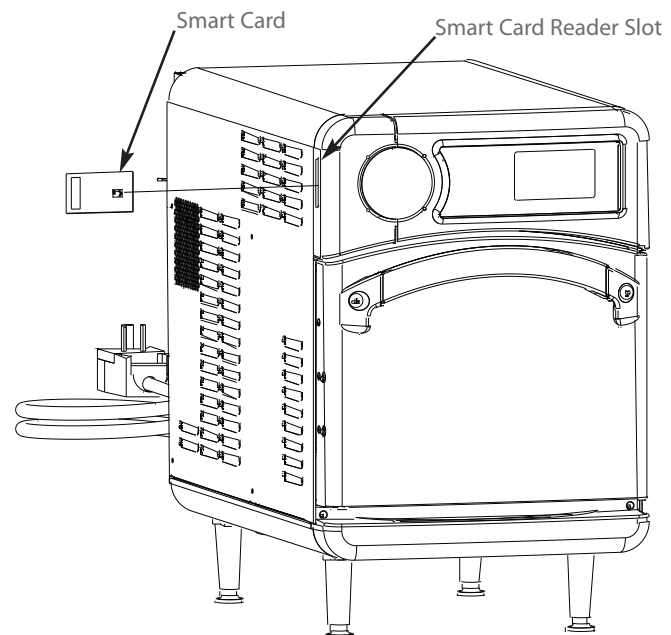

Figure 24: Inserting Smart Card
3. Insert the smart card (Figure 24).
1. Insert the gray smart card “1 of 3” (Figure 24).